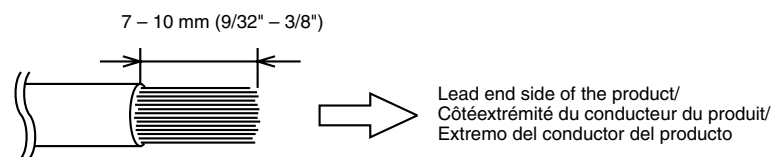

Fig. 4
2. Remove the insulation from the ends of the wire leads by about 7 – 10mm (9/32" – 3/8"). (Fig. 4)
2. Retirer l'isolation des bouts des fils de connexion de 7 – 10mm (9/32" – 3/8"). (Fig. 4)
2. Quite aproximadamente 7 – 10mm (9/32" – 3/8") de aislación de los extremos de los alambres. (Fig. 4)